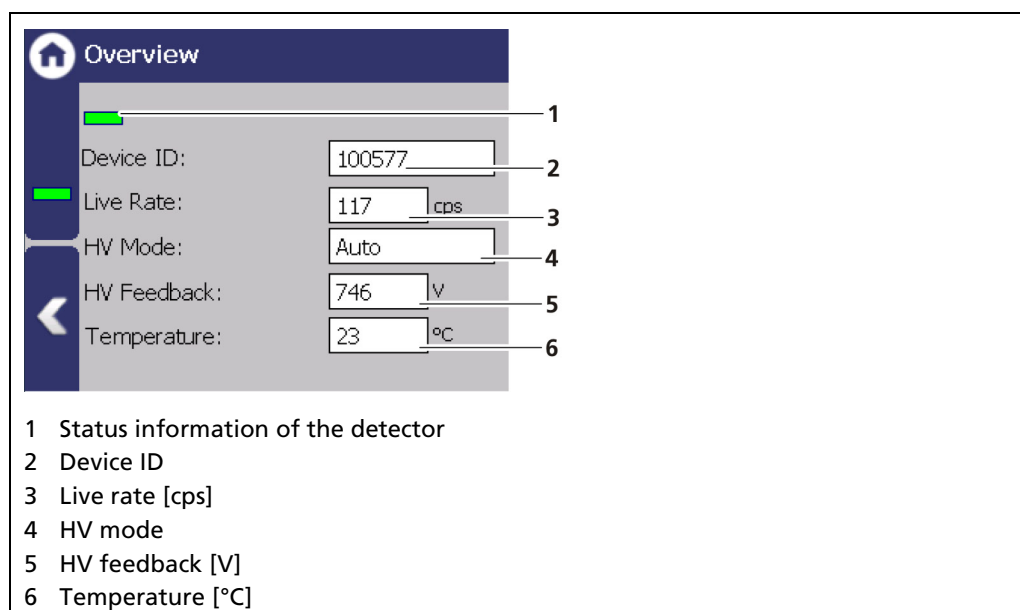

Fig. 58 Overview Detector Information
A green bar appears with error-free status of the detector (Fig. 58, item 1).
Device ID	Shows the ID (Fig. 58, item 2) of the detector.
Live Rate	The "Live Rate" (Fig. 58, item 3) displays the current, unfiltered count rate.
HV Mode	In the field "HV mode" (Fig. 58, item 4), the HV mode is displayed, which is chosen under Device Setup Setup Sensors NAME DETECTOR] High Voltage HV Settings .
HV Feedback	The field "HV Feedback" (Fig. 58, item 5) displays the actual measured value in volts.
Temperature	The field "Temperature" (Fig. 58, item 6) indicates the current temperature of the detector in C°.